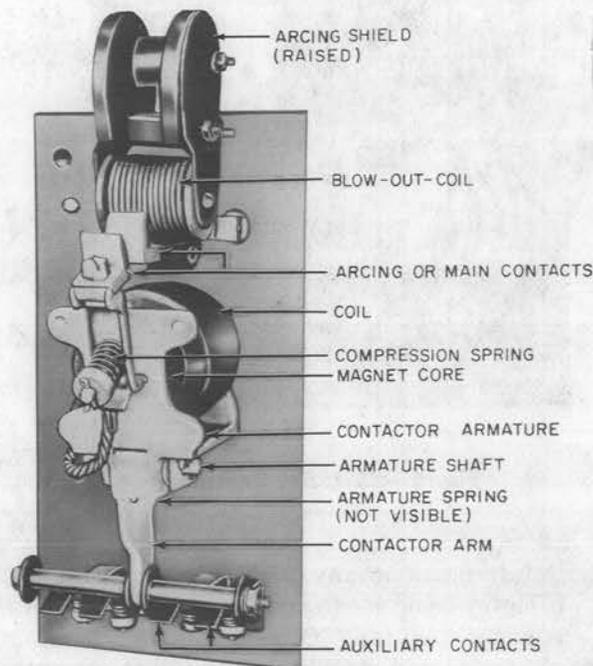

Fig. 1—Typical Contactor
1.06 On 20- and 50-ampere contactors, the arcing contacts are silver-plated and also serve as the main contacts. On other sizes, the main contacts are laminated brushes contacting a silver-plated or silver-faced contact plate. All but 20-ampere contactors have magnetic blowouts and arcing shields. Typical contactors are shown in Fig. 1 and 2.